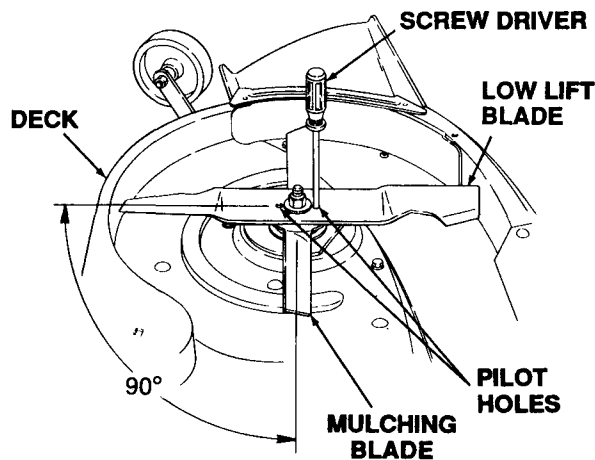

Figure 7-8. Using Pilot Holes To Align Blades.
2. Align the pilot holes of the blades and adapters (the blades should be at 90° to each other) and insert a phillips screwdriver, drift punch, or similar type instrument through the pilot holes (see Fig. 7-8).